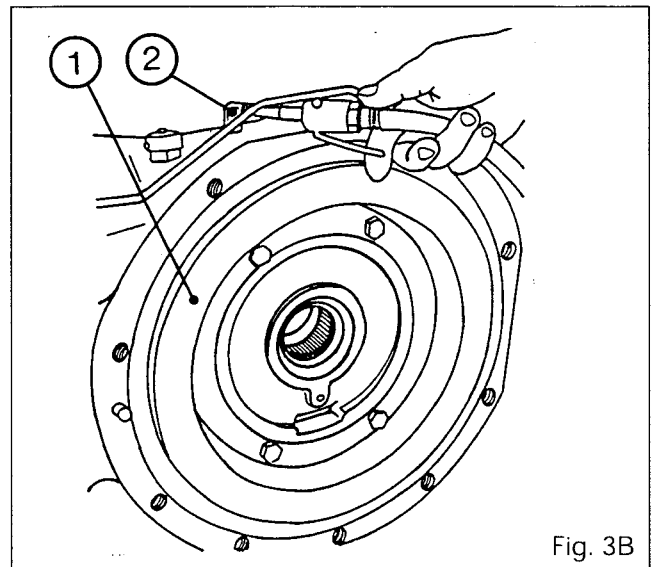
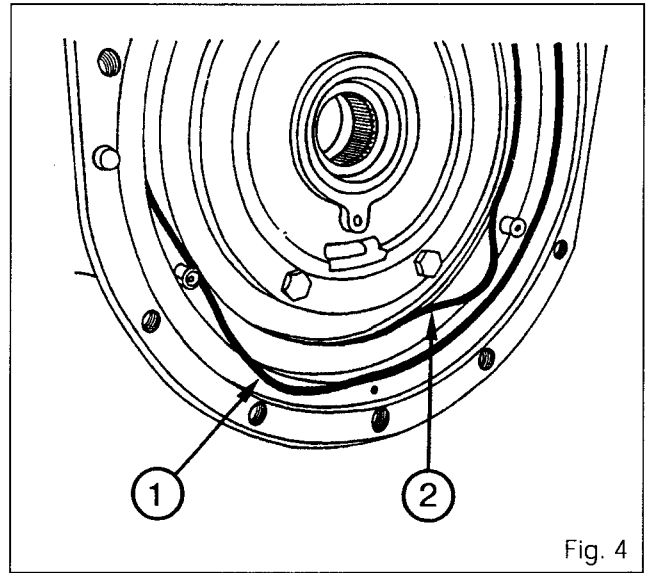

Fig. 3B
Fig. 4
5. As from serial number E275051, remove the bolts **(3)** (Fig. 3A) with a locally manufactured socket. Withdraw the piston **(1)** from the housing with a jet of compressed air applied to the connector **(2)** (Fig. 3B).
**Note : To facilitate access to the connector (2), if necessary, disconnect the economy 4-speed PTO control (if fitted) and rotate the connector.**
6. Remove the O-rings **(1)** and **(2)** on the centre housing and discard them (fig. 4).